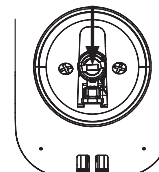

Figure 7A
- Install inside escutcheon on inside mounting plate. Note in Fig. 7A the horizontal orientation of the tail piece as you insert the inside escutcheon (thumb turn should be vertical).
- Install and secure using (3) M4 x 8mm [8-32 x 5/16"] pan head screws through the inside escutcheon into the mounting plate.
- Insert four (4) AA alkaline batteries. The lock responds, **"Welcome to Yale Real Living™"**. When activating the lock for the first time, the lock will adjust for proper handing.